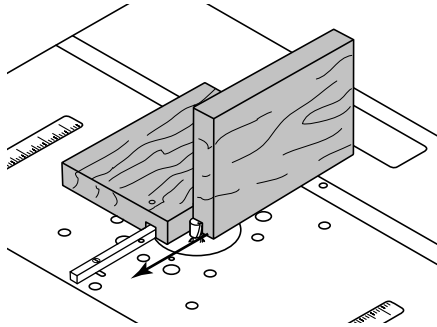

Figure 50
- Use the first piece of wood as an offset to make the next cut. Lay the first piece on the table with the dado cut straddling the dovetail bar. Lay another 3/4" piece of wood on its edge next to the first piece and run it through router bit. This makes the rabbet cut. See Figure 50.